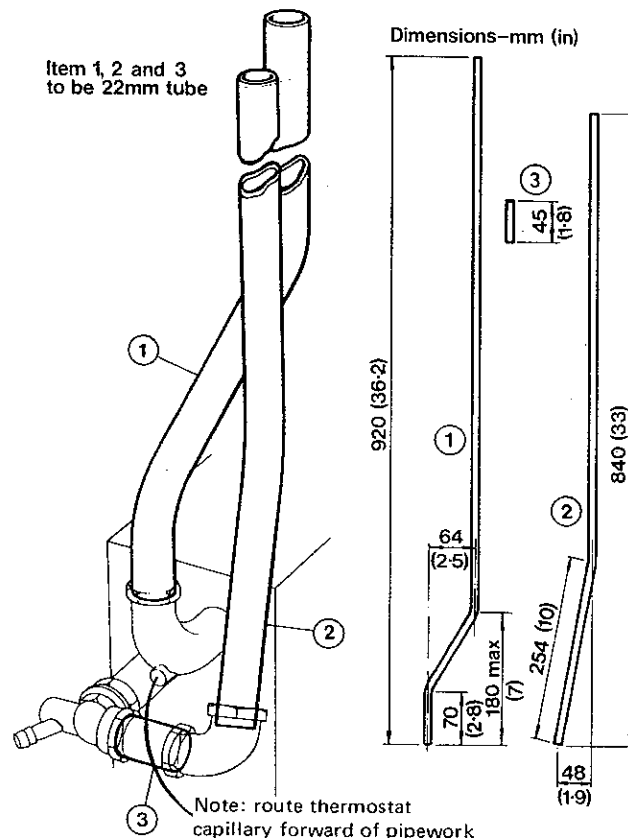

Fig. 4
- Tighten Male Adaptor into 'flow' connection and Male Drain Elbow into 'return' connection of water heater (note position from Fig. 4)
- Pass pipe (1) up through rear holes in fan compartment floor and top of heater and connect to Male Adaptor — tighten fully.
- Insert pipe (3) into Drain Elbow and tighten
- Loosely fit elbow to (3). Pass straight end of pipe (2) up through fan compartment floor and top of heater, locate in elbow and tighten all joints.